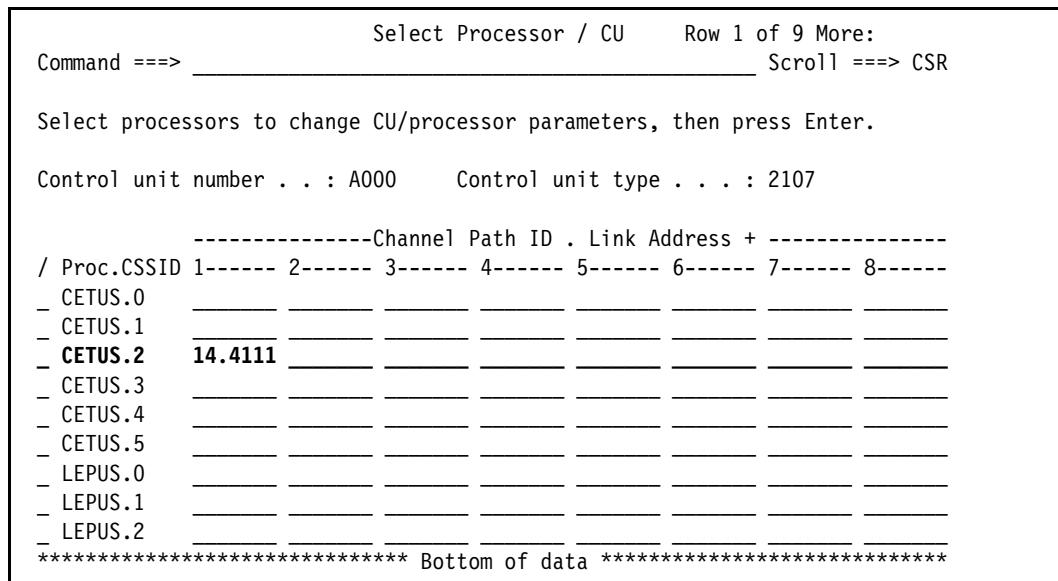

Figure 12-12 Processors: Select Processor / CU: CHPID to Link address connection
HCD now returns back to the Select Processor / CU panel showing the CHPID (14) to Destination Link Address (11) through the FICON switch (41) connection definition (Figure 12-12).